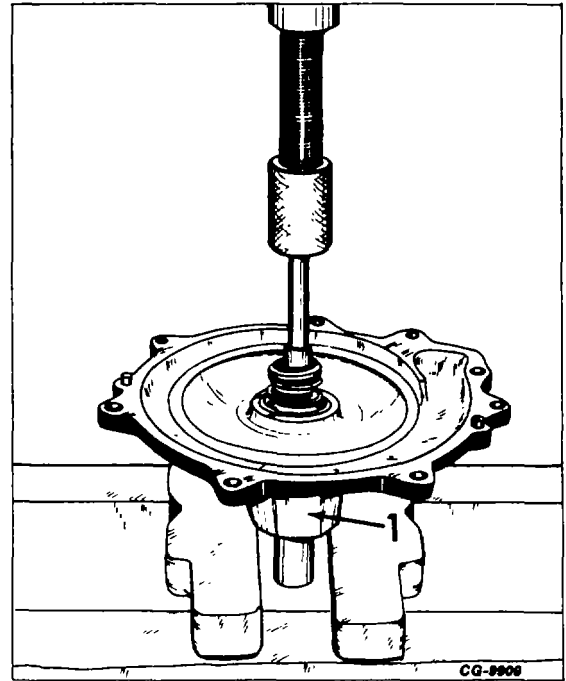

Figure 6. - Removing Shaft and Bearing Assembly
4. Support the bearing housing (1, Fig. 6) as shown and press the shaft and bearing assembly out of the bearing housing.